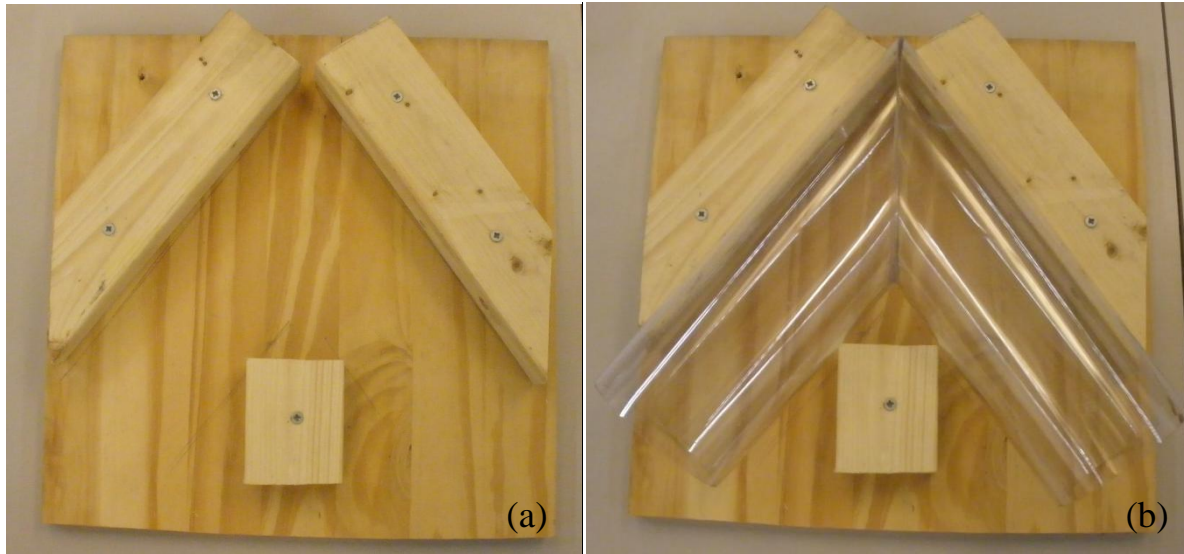

Figure 2: gluing preparation (a) gluing jig (b) gluing pieces
- Place one (1) ft piece polycarbonate (Lexan[®]) tube (outer diameter = 4 in., thickness = 1/8 in.) on the cutting jig. The tube should protrude so that it is aligned with the band saw blade
4. Construct gluing jig (Figure 2)
- Use one (1) screw to attach rectangle 1½ in. from the bottom edge of square, centered between sides
- Cut two (2) 10½ in. x 2½ in. wood rectangles (thickness = 1½ in.).
- Mark one (1) edge of the long side at 7¼ in. and cut from the mark to the opposite corner at an angle of approximately 40° (direction closer to mark)
- Set “V” in welding jig (Figure 2 b). Use duct tape to maintain pressure